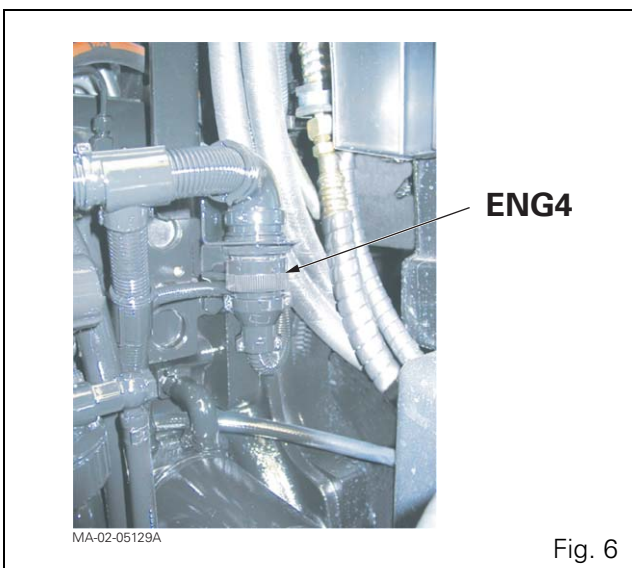

Fig. 6
- 19.** Mark and disconnect the ENG4 connector from the main harness at the rear of the engine (Fig. 6).